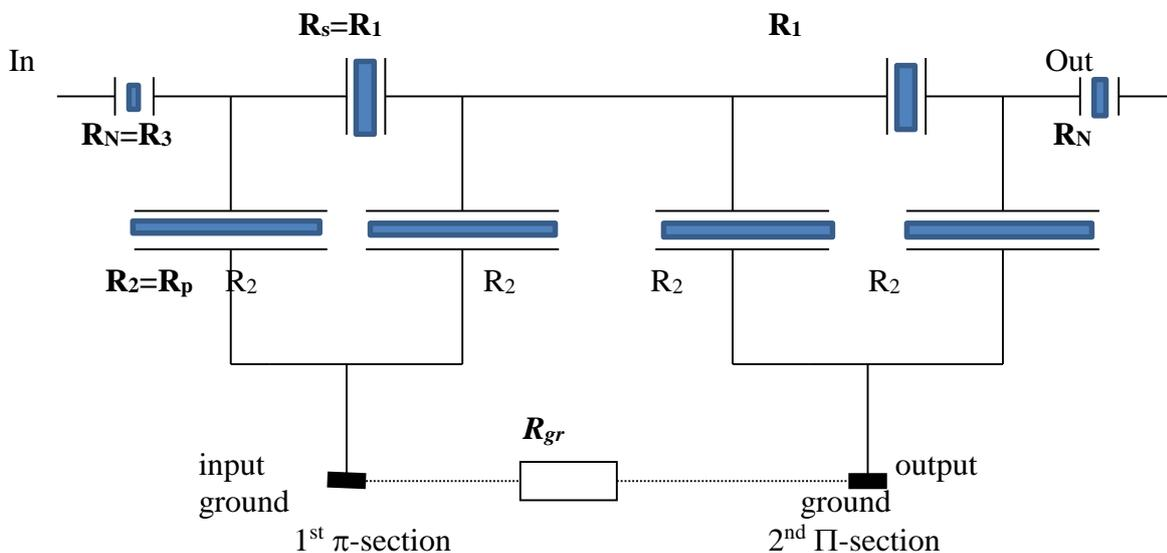

Fig.1 Electric scheme of the ladder filter
- ❖ **N-2Π-N**, as above, but 2 Notch resonators are added in series with input and output (see **Fig.1 below**). Notch resonator has its own period and other parameters and is used to create additional notch in the passband.